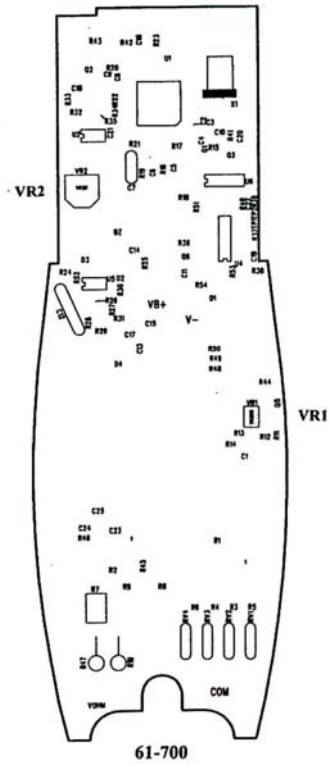
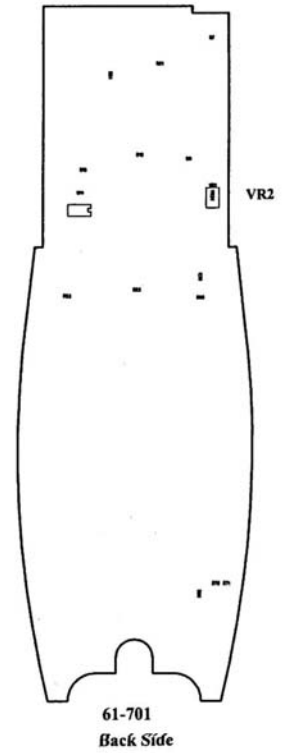

Figure 1
Figure 2B
**V DC Calibration****61-700 (Refer to Figure 1)**
**A AC Calibration:****61-700 (Refer to Figure 1)****61-701 (Refer to Figure 2B; peel front label back to access calibration hole)****61-702 (Refer to Figure 3B; peel front label back to access calibration hole)****61-704 (Refer to Figure 4B; peel front label back to access calibration hole)**